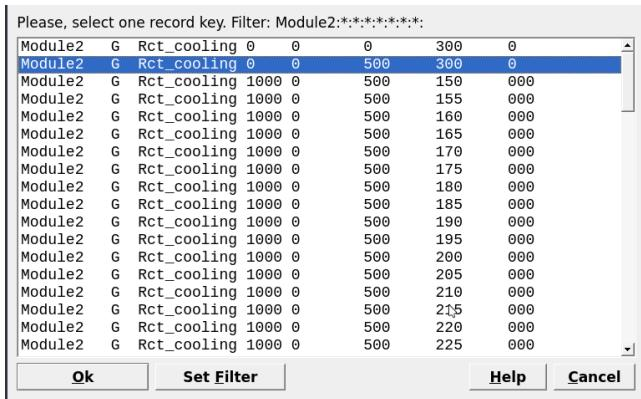

Figure 2.18: Select the parent record generated in ‘SysEq’ for your new ‘Process’ simulation.
- Switch to **Processsimulation** mode and clone **Rct_path_2**. Select the **Rct_cooling** **SysEq** record (Fig. 2.18). Then call this new record **Cooling_150-300C** and select **P** for the simulation mode.